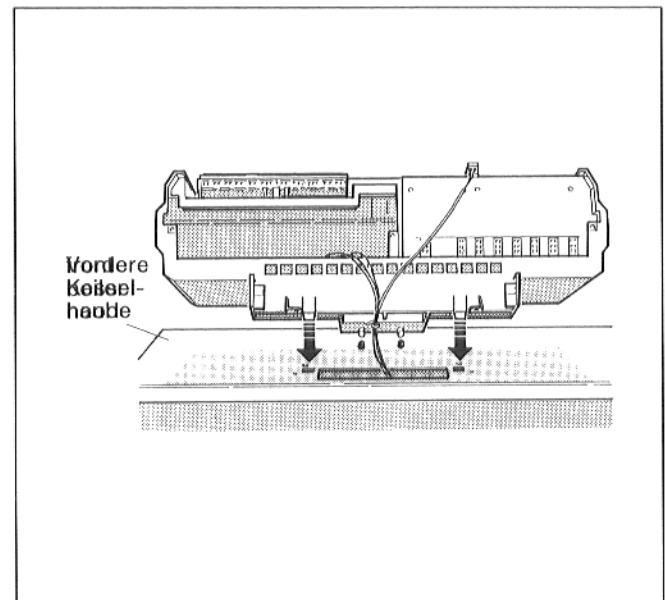

Fig. 35 – Positioning the control panel
- Position the control panel on the front boiler hood in such a way that the push-in hooks on the underside of the control panel at the front enter the oval bores (see Fig. 35).